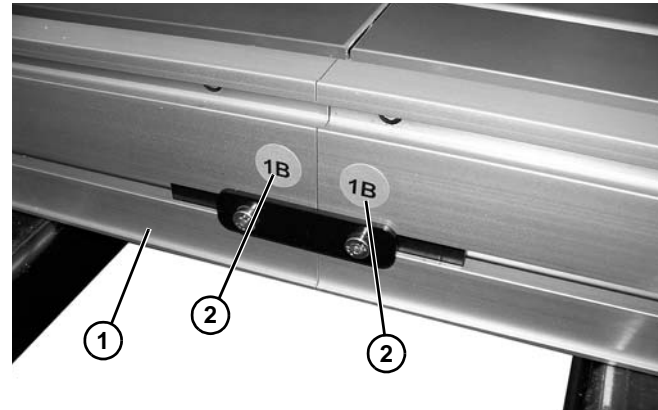

Figure 5
1. Locate and arrange conveyor sections by section labels (**Figure 5, item 2**).